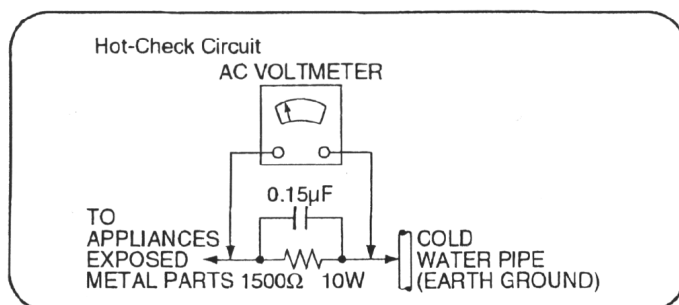

Figure. 1
1.1.2. LEAKAGE CURRENT HOT CHECK (See Figure 1.)
2. Connect a $1.5k\Omega$, 10 watts resistor, in parallel with a $0.15\mu F$ capacitors, between each exposed metallic part on the set and a good earth ground such as a water pipe, as shown in Figure 1.